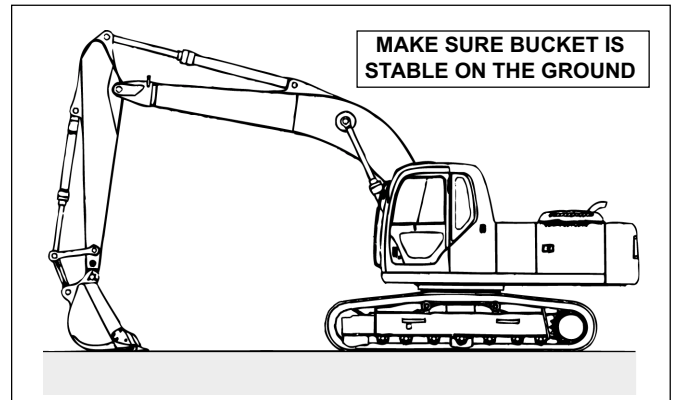

FIGURE 4.55A
- a. Move the machine to a firm level surface and place the bucket on the ground, making certain that the bucket is stable. See Figure 4.55A.